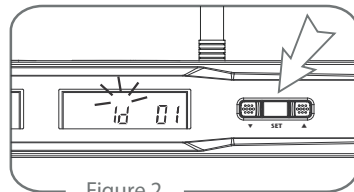

Figure 2
A) Press "Set" button ③ for 3 seconds, LCD Panel will start flashing.
B) Press "Set" to enter "ID Code" setting window. (Figure 2)